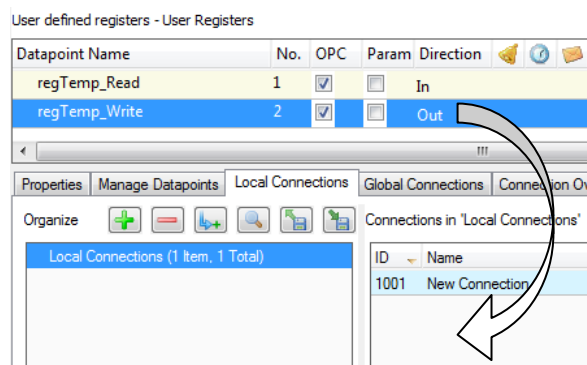

Figure 157: Create a connection with drag-and-drop.
- In the properties view below the data point list click on the **Local Connections** tab as shown in Figure 157.
- Then simply drag a data point from the data point list and drop it onto an empty area in the connections list as shown in Figure 157.